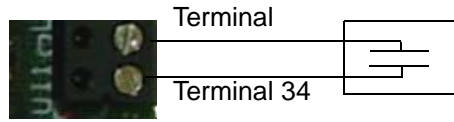

Figure 2-17: Dry Contact as Digital Input Using UI
The SBC-VAVta and -VAVtf controllers have five (5) triac outputs at **TB3** terminals 11 and 12 (both marked K1 on the PCB), 13 and 14 (both marked K2 on the PCB), and 15 and 16 (both marked K3 on the PCB). Each triac output is capable of tracking the amount of time that the output is considered to be engaged (runtime hours). Refer to Figure 2-17 for wiring information. For additional information about triacs, refer to *Section 1, Overview*.